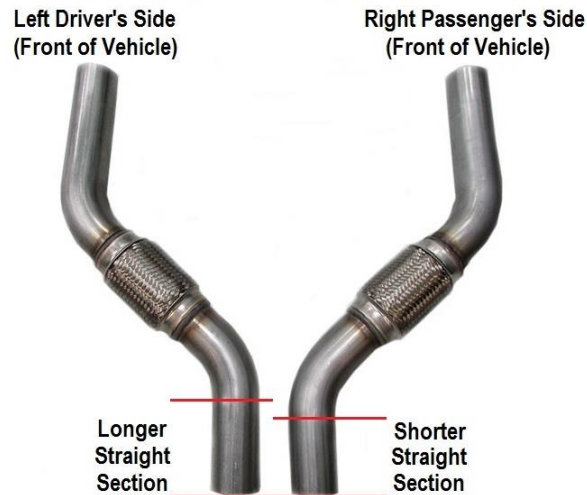

Figure 5
- Using the supplied (x2) exhaust coupler clamps, install the Blackheart adapter flex pipes. Do not tighten the coupler clamps. Refer to **Figure 5** to distinguish which is the left and right side.